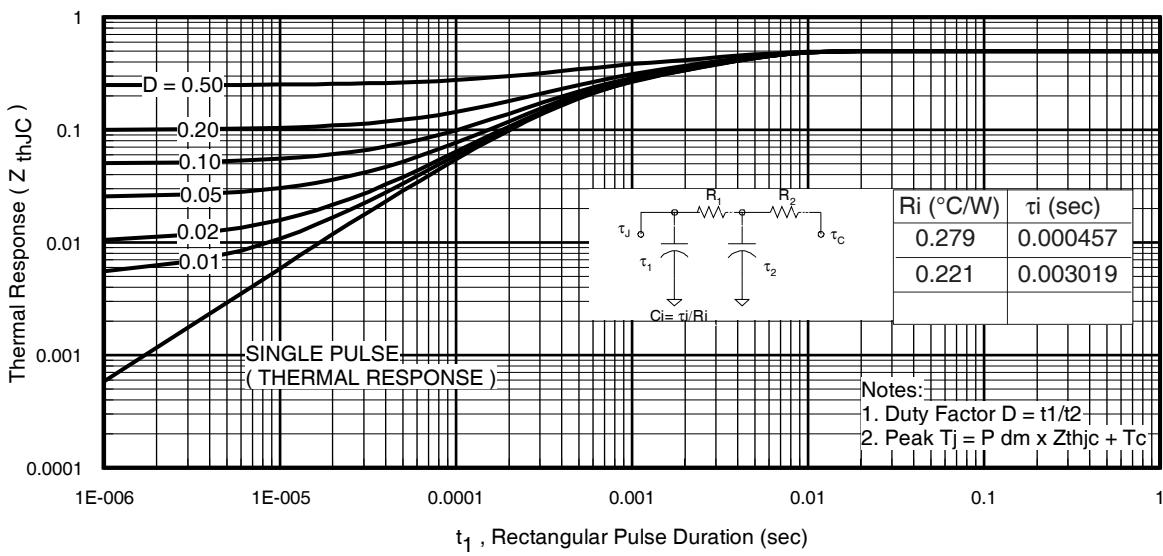
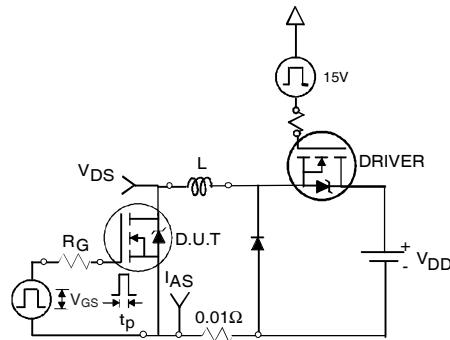

Fig 11. Maximum Effective Transient Thermal Impedance, Junction-to-Case
Fig 12a. Unclamped Inductive Test Circuit
- ① Repetitive rating; pulse width limited by max. junction temperature. (See fig. 11).
- ② Limited by $T_{J\text{max}}$, starting $T_J = 25^\circ\text{C}$, $L=0.095\text{mH}$, $R_G = 25\Omega$, $I_{AS} = 75\text{A}$, $V_{GS} = 10\text{V}$. Part not recommended for use above this value.
- ③ $I_{SD} \leq 75\text{A}$, $di/dt \leq 340\text{A}/\mu\text{s}$, $V_{DD} \leq V_{(\text{BR})\text{DSS}}$, $T_J \leq 175^\circ\text{C}$.
- ④ Pulse width $\leq 1.0\text{ms}$; duty cycle $\leq 2\%$.
- ⑤ $C_{\text{oss eff.}}$ is a fixed capacitance that gives the same charging time as C_{oss} while V_{DS} is rising from 0 to 80% V_{DSS} .
- ⑥ Limited by $T_{J\text{max}}$, see Fig.12a, 12b, 15, 16 for typical repetitive avalanche performance.
- ⑦ This value determined from sample failure population.
3. Equation below based on circuit and waveforms shown in Figures 12a, 12b.
- Z_{thJC}(D, t_{av}) = Transient thermal resistance, see figure 11